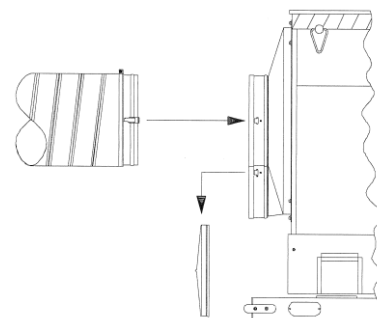

FIGURE 5
2. Place air duct in aircraft and ensure that the opening is unobstructed. Remove yellow output air duct from the storage compartment located under the unit. Remove yellow dust caps from the input and output duct openings located on the back of the air conditioner and place in the storage compartment. Attach yellow output air duct to the air conditioner via the duct openings located on the back of the air conditioner. **See Figure 5.** Place other end of yellow duct into the aircraft.